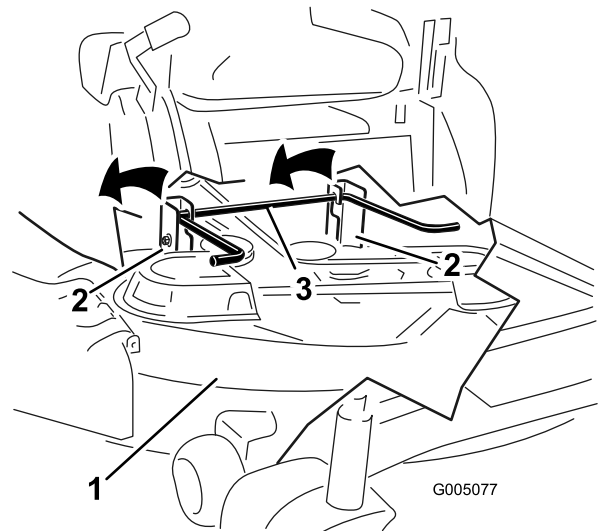

Figure 58
5. Using the mower-deck handles, lift the mower deck and hanger brackets clear of the rear lift rod and lower the mower carefully to the ground (Figure 58).
5. Lift the rear of the mower deck and guide the hanger brackets over the rear lift rod (Figure 58).